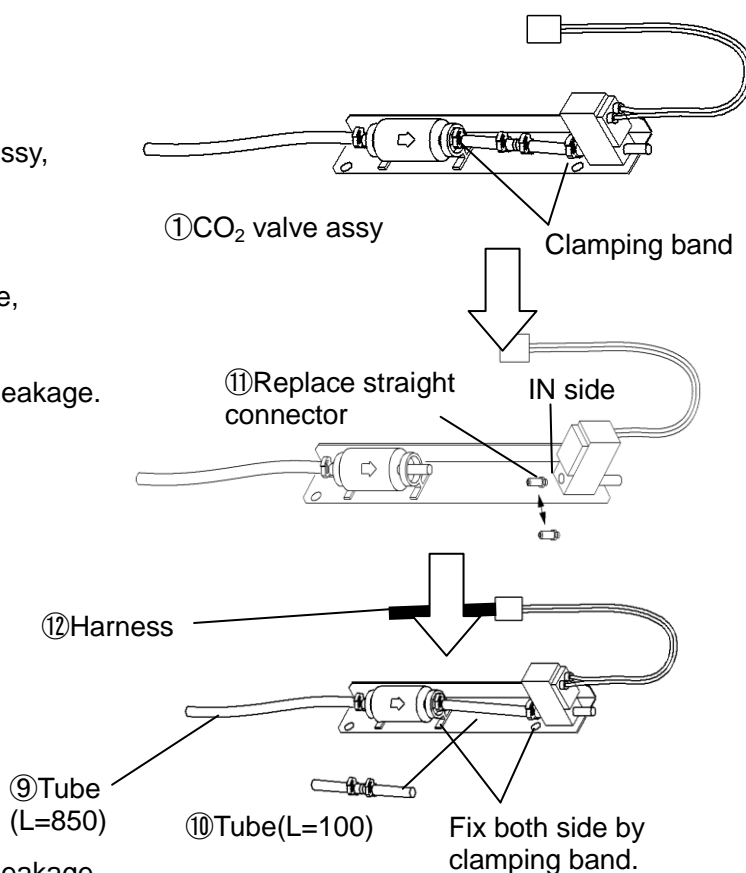

Figure 1
1. Remove clamping band of ① CO₂ valve assy, then remove tube and capillary (Figure 1).
2. Remove IN side straight connector of valve, then replace to ⑪ Straight connector.